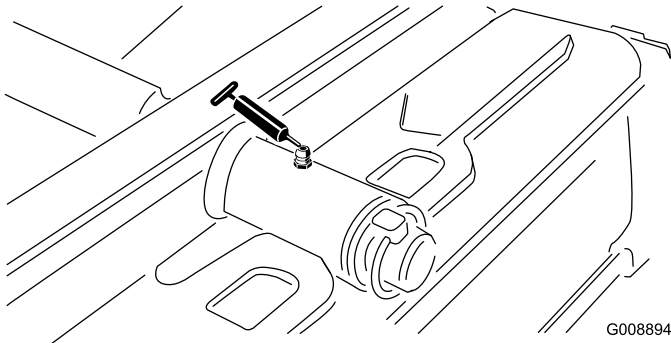

Figure 47
- Rear cutting unit pivot (Figure 47)